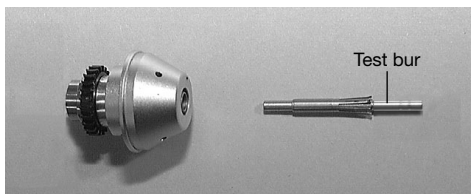

Fig.20
(2) Installation of a New Chuck
- ① Apply oil thinly on the surface of the new chuck or the chuck after cleaning, insert the test bur and push into the rotor shaft. (Fig.20)